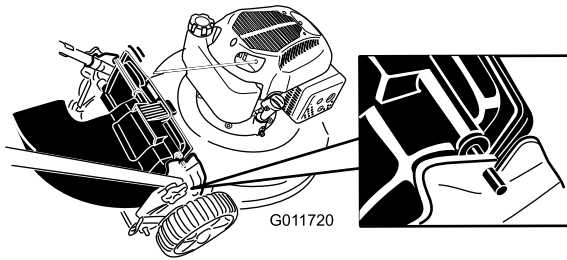

Figure 17
4. Insert the rod on the rear-discharge deflector into the notches on the mower (Figure 17).